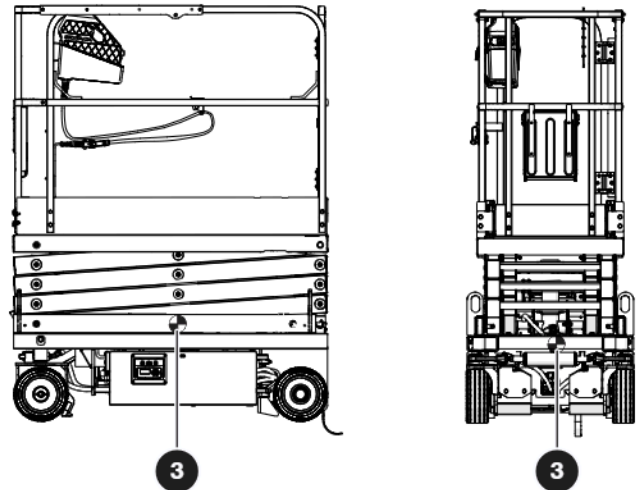

Figure 06 Center of gravity
For the weight of the MEWP, refer to Section 7.3. Horizontally, the **center of gravity** ③ is approximately in the middle of the MEWP, front to back and side to side. Refer to Figure 06. Vertically, the center of gravity is approximately a small distance above the chassis.